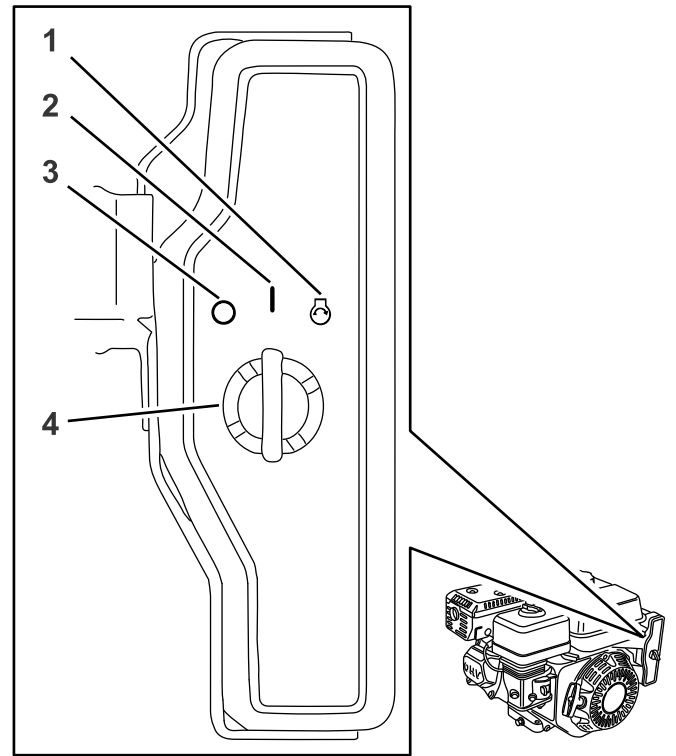

Figure 15
4. Rotate the key switch to the ON position (Figure 15).
5. Turn the key to the START position, and hold it there until the engine starts (Figure 15).